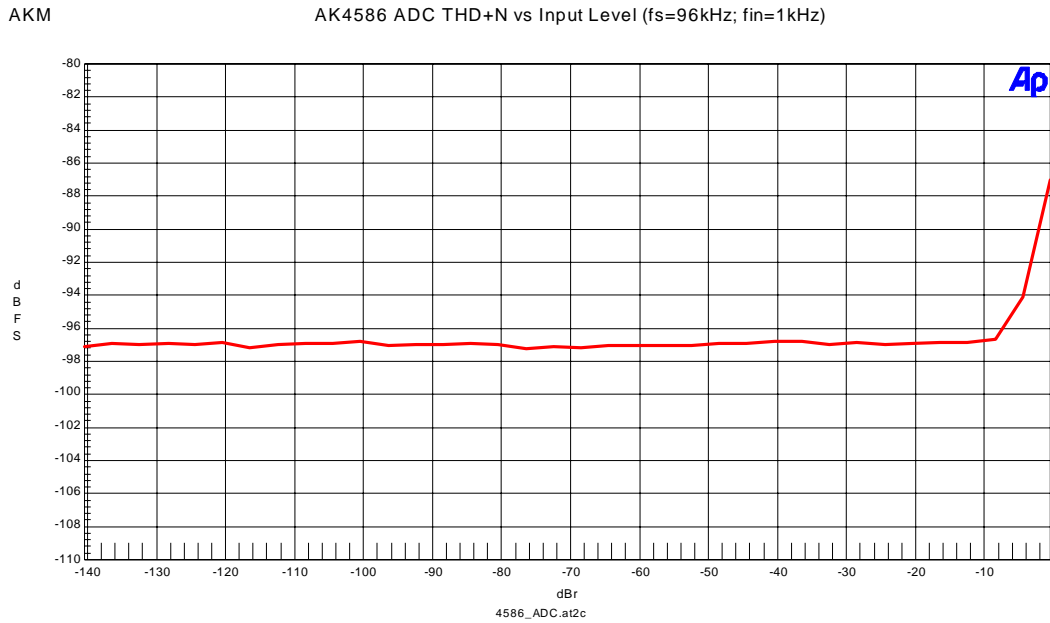

Figure 2-4. THD+N vs Input Level (fin=1kHz)
- Figure 2-4. THD+N vs Input Level (fin=1kHz)